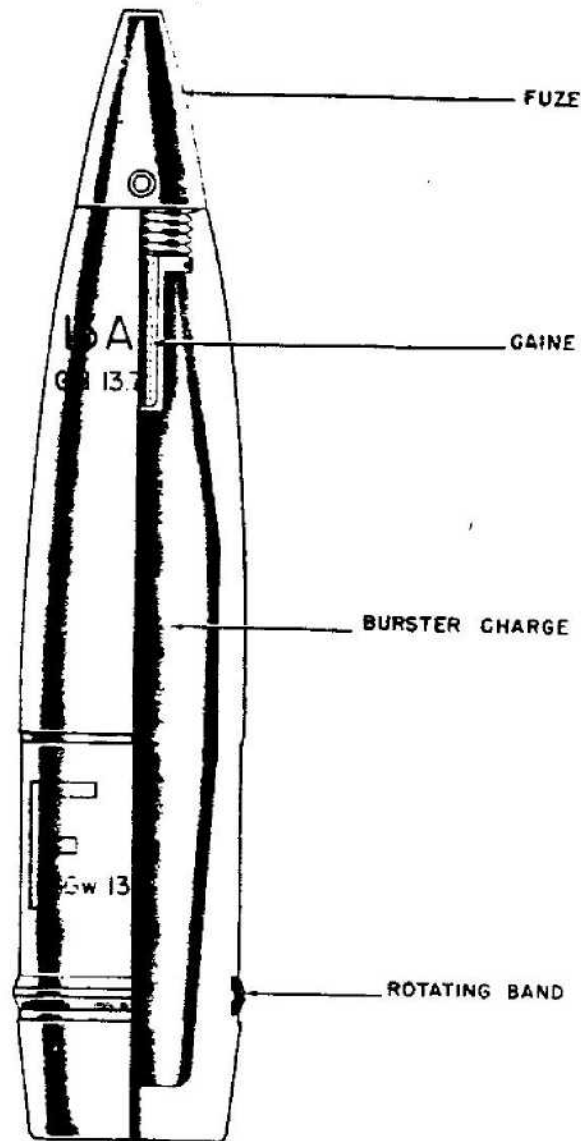

Figure 470—H. E. Projectile for Long Distance Use in Field Howitzer, 105-mm, 10-cm F. H. Gr. F.
**GERMAN NOMENCLATURE:** 10-cm F. H. Gr. F. (Feld Haubitze Granate (distance)). (See fig. 470.)